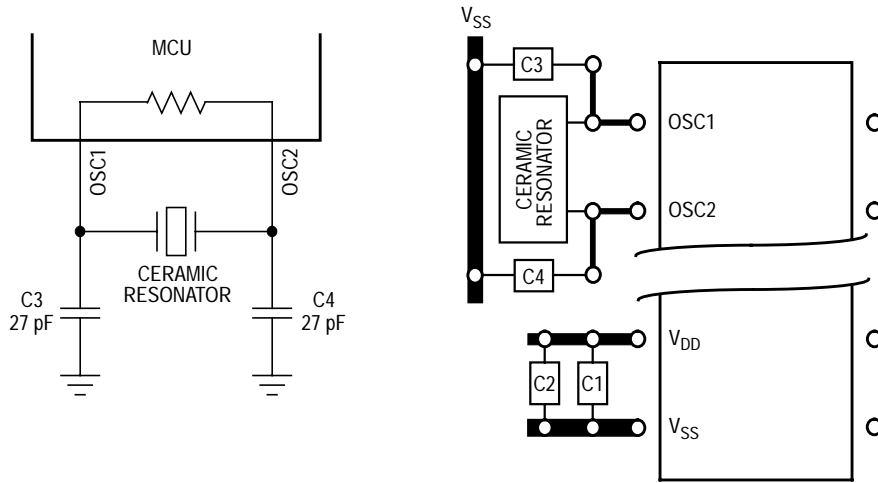
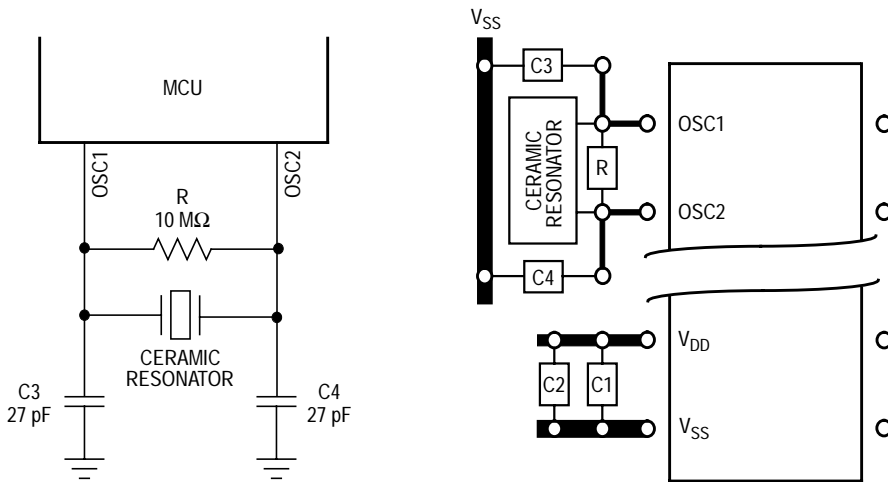
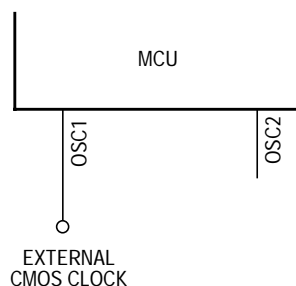

Figure 5. Ceramic Resonator Connections with Oscillator Internal Resistor Mask Option
Figure 6. Ceramic Resonator Connections without Oscillator Internal Resistor Mask Option
Figure 7. External Clock Connections
2. Ceramic resonator (See Figure 5 and Figure 6.)
3. Resistor/capacitor (RC) oscillator (Refer to Appendix A.)
4. External clock signal as shown in (See Figure 7.)
To reduce cost, use a ceramic resonator instead of the crystal. The circuits shown in Figure 5 and Figure 6 show ceramic resonator circuits. Follow the resonator manufacturer's recommendations, as the resonator parameters determine the external component values required for maximum stability and reliable starting. The load capacitance values used in the oscillator circuit design should include all stray capacitances.
An external clock from another CMOS-compatible device can be connected to the OSC1 input, with the OSC2 input not connected, as shown in Figure 7. This configuration is possible regardless of whether the crystal/ceramic resonator or the RC oscillator is enabled.